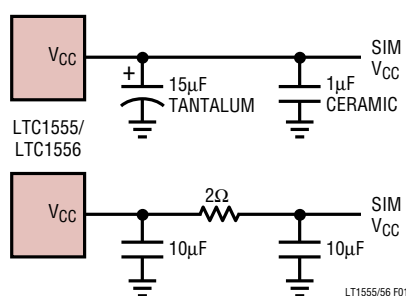

Figure 1.  $V_{CC}$  Output Ripple Reduction Techniques
**DATA (Pin 3):** Controller Side Data Input/Output Pin. Can be used for single pin bidirectional data transfer between the controller and the SIM card as long as the controller data pin is open drain. The controller output must be able to sink 1mA max when driving the DATA pin low due to the internal pull-up resistors on the DATA and I/O pins. If the controller data output is not open drain, then the DDRV pin should be used for sending data to the SIM card and the DATA pin used for receiving data from the SIM card (see Figure 1).
reduce the ripple. A larger  $C_{OUT}$  capacitor (22 $\mu$ F or greater) will reduce both the low and high frequency ripple due to the lower  $C_{OUT}$  charging and discharging  $dV/dt$  and the lower ESR typically found with higher value (larger case size) capacitors. A low ESR ceramic output capacitor will minimize the high frequency ripple, but will not reduce the low frequency ripple unless a high capacitance value is chosen (10 $\mu$ F or greater). A reasonable compromise is to use a 10 $\mu$ F to 22 $\mu$ F tantalum capacitor in parallel with a 1 $\mu$ F to 3.3 $\mu$ F ceramic capacitor on  $V_{OUT}$  to reduce both the low and high frequency ripple. An RC filter may also be used to reduce high frequency voltage spikes (see Figure 1).